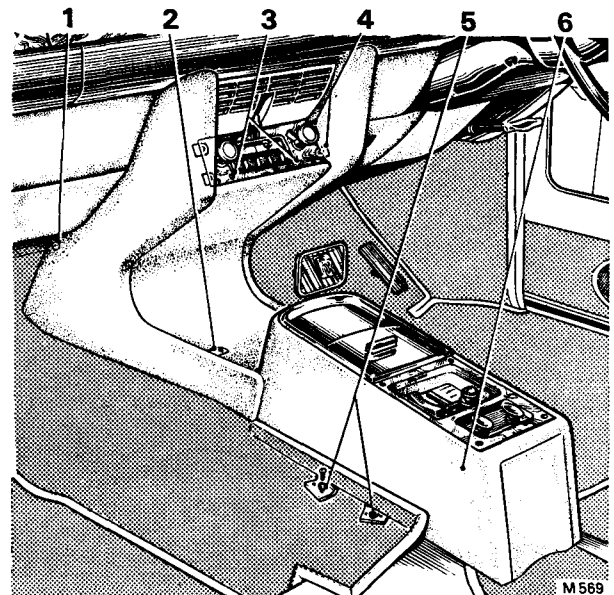

FIG. S113 VIEW OF TYPICAL CENTRE CONSOLE TRIM (Coachbuilt Cars)
6. Remove the screws securing the trim panels on each side of the radio console (see Fig. S113); remove the trim panels.